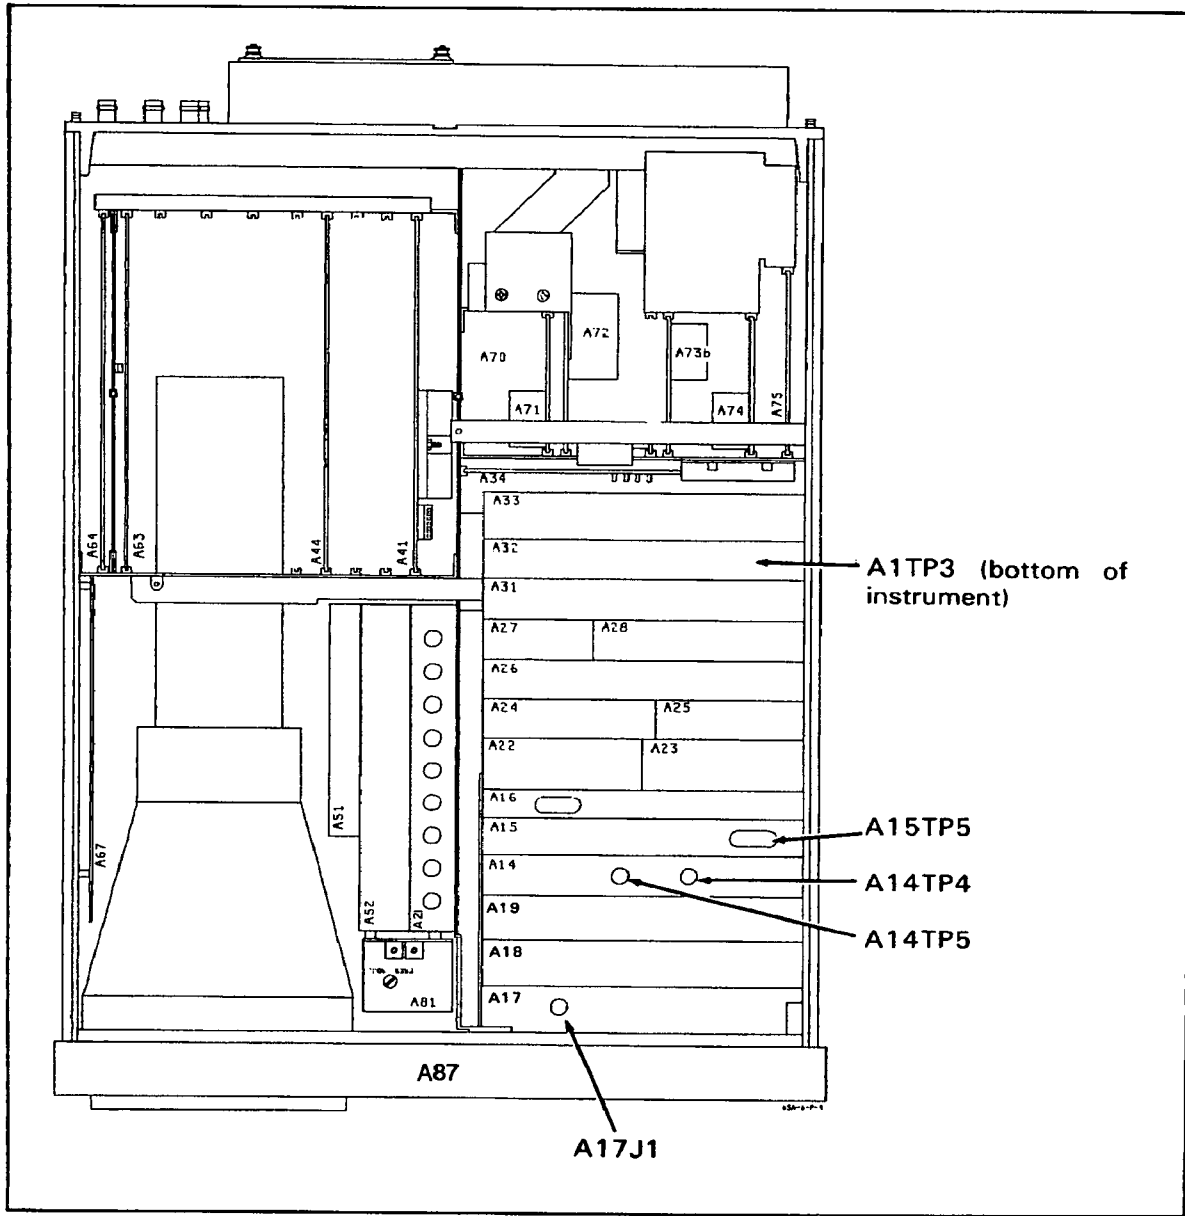

Figure 11-P-9a. Main Signal Path Test Point Locations
- b. If the CRT display does not resemble Figure 11-P-11 (i.e., display is distorted, blank, etc.), then the problem is in the Display Section (Service Group D).